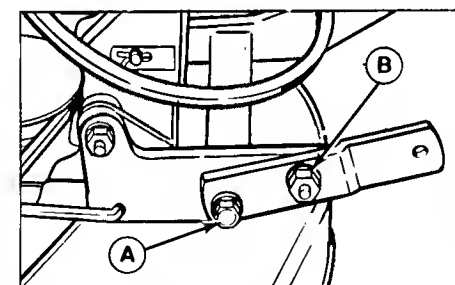

Figure 40. Mower Hitch
6. Loosen the capscrew (A, figure 40) and flange nut (B) in the right mower hitch.
8. Retighten the capscrow and flange nut (B, figure 40). Torque capscrow (A) to 50 ft. lbs. Torque nut (B) to 65 ft. lbs.